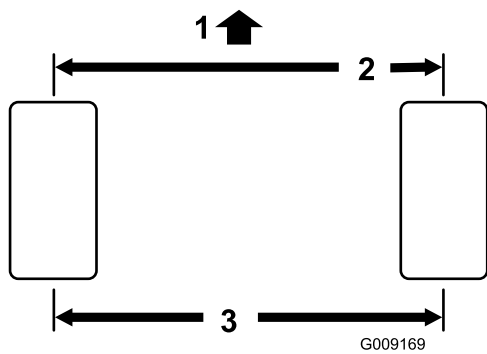

Figure 61
1. Measure the center-to-center distance (at axle height) at the front and rear of the steering tires (Figure 61).